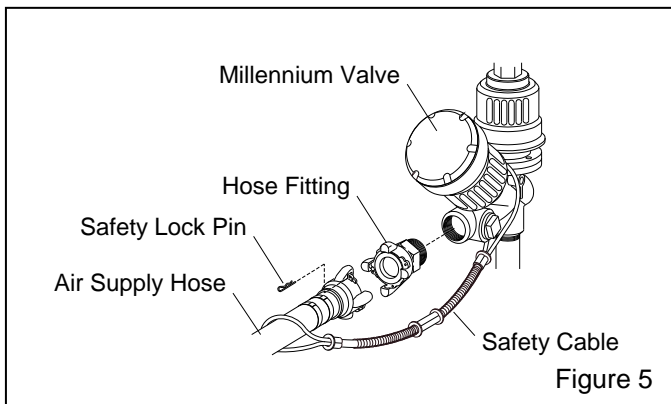

Figure 5
**2.4.1** Apply thread sealant to the male pipe threads of an air fitting that is compatible with the air supply hose fitting, as noted in Section 2.4.2, and install it onto the 1-1/2 NPT optional air filter or the Millennium inlet valve, as shown in Figure 5. **Note that the style of connection shown in Figure 5 is for reference only.**